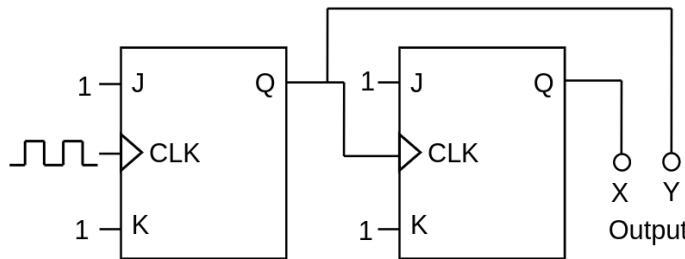

Fig. 5.28
28. The circuit shown in Fig. 5.28 below uses ideal positive edge-triggered synchronous J-K flip flops with outputs X and Y. If the initial state of the output is  $X=0$  and  $Y=0$ , just before the arrival of the first clock pulse, the state of the output just before the arrival of the second clock pulse is \_\_\_\_\_